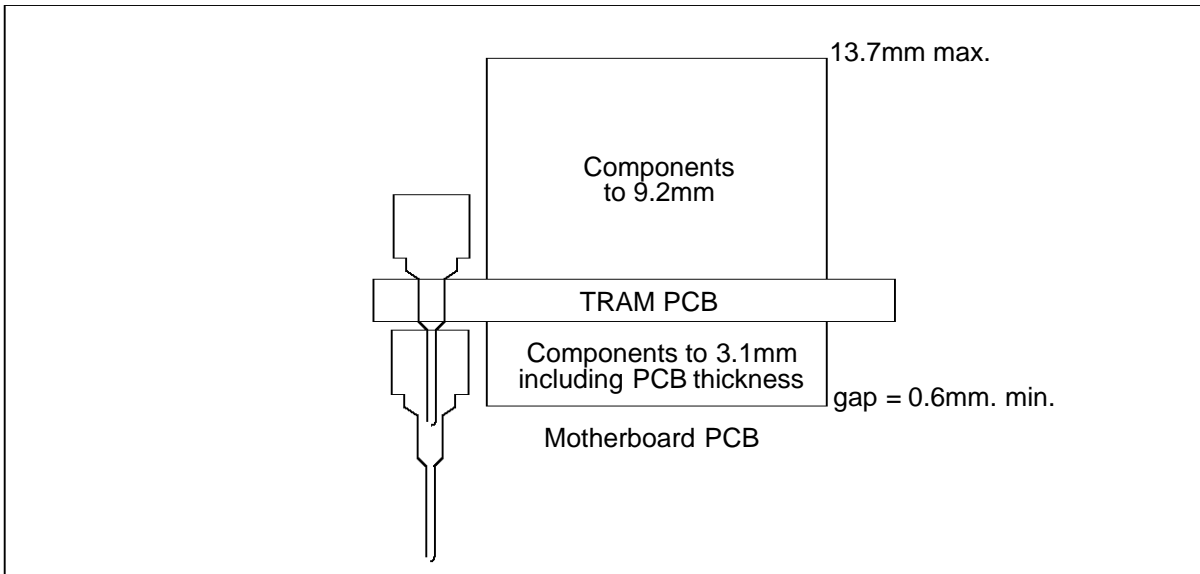
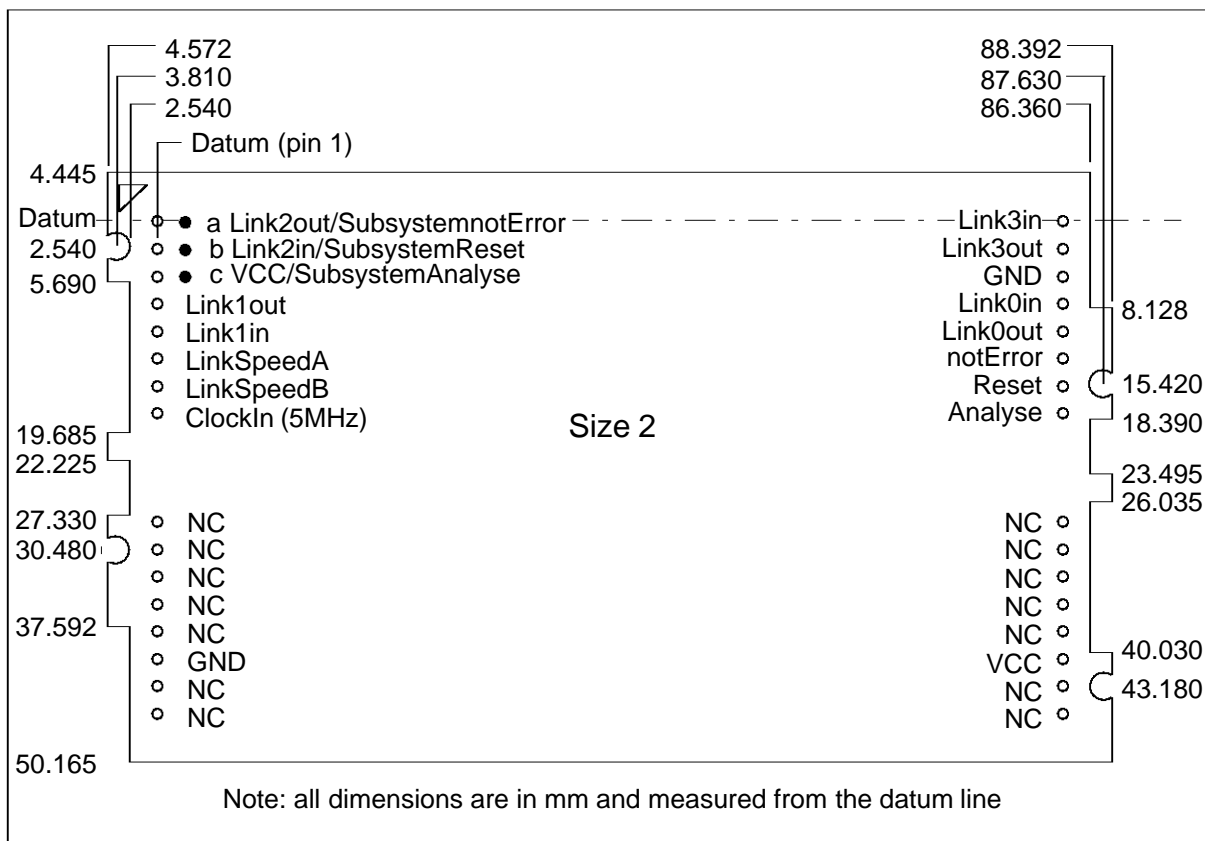

Figure 1.2 IMS B452 height specification
Figure 1.3 PCB profile drawing and pinout
- 2 Details of the physical pin locations can be found in Figure 1.3.
Figure 1.2 indicates the vertical dimensions of a single IMS B452 TRAM and Figure 1.3 shows the outline drawing of the IMS B452.
Plug the IMS B452 carefully into the motherboard. Where the IMS B452 is being used with an SGS-THOMSON Microelectronics motherboard, the silk screened triangle marking pin 1 on the IMS B452 (see Figure 1.3) should be aligned with the silk screened triangle that appears in the corner of the appropriate TRAM slot. If it is envisaged that the assembly is likely to be subjected to any vibrations, it is recommended that the TRAM is secured to the motherboard using nylon M3 nuts and bolts. The bolts should be inserted through the fixing holes on the motherboard, and through the castellations on two edges of the TRAM. A number of these nuts and bolts are supplied with each of the SGS-THOMSON Microelectronics motherboards.